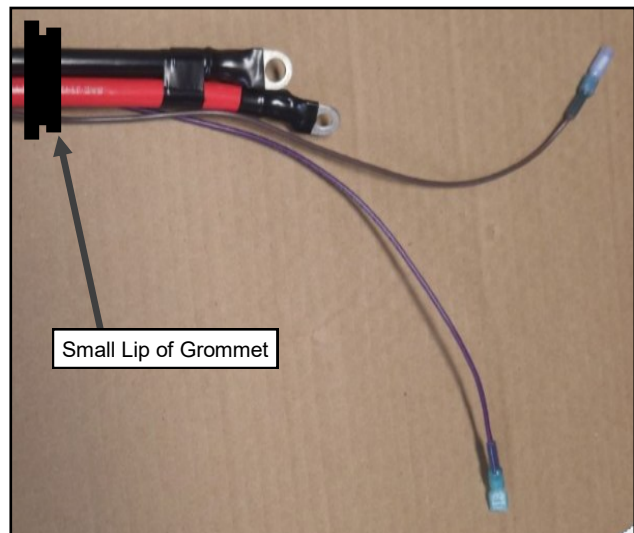

Fig. 1.2 (Install grommet on this end of power harness)
- 1.2 Install 1-7/8" O.D. Grommet onto the end of the A/C Power Supply Harness shown in Fig. 1.2. Make sure small lip of the grommet is pointed towards the end shown.